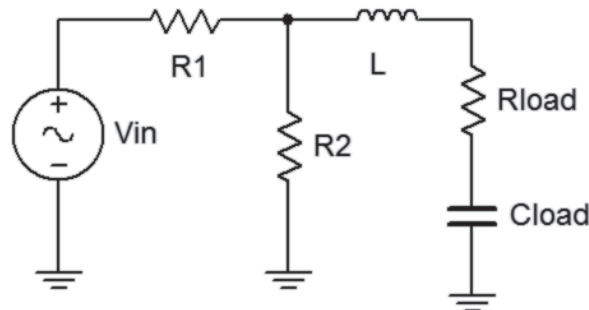

Figure 11.3
6. To verify that Thevenin’s theorem also works with an inductive source and a complex load, repeat steps 1 through 5 in like manner but using figure 11.3 with R1=1.5 kΩ, R2=2.2 kΩ, L=10 mH, Rload=1 kΩ with Cload=100 nF. Set the generator to a 10 kHz sine wave at 2 V p-p. Record results in Tables 11.3 and 11.4.